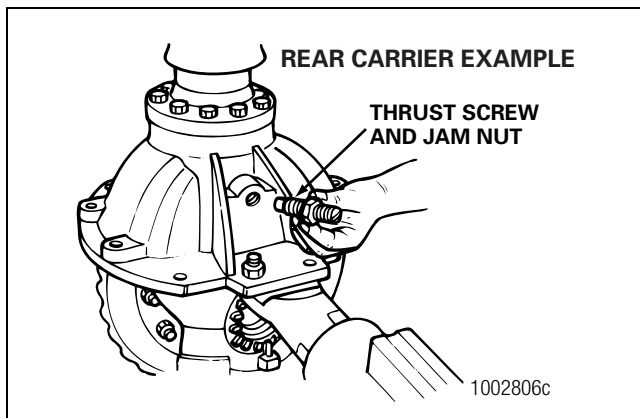

Figure 5.60
2. Install the jam nut onto the thrust screw. Thread the jam nut to the middle of the thrust screw. Figure 5.60.